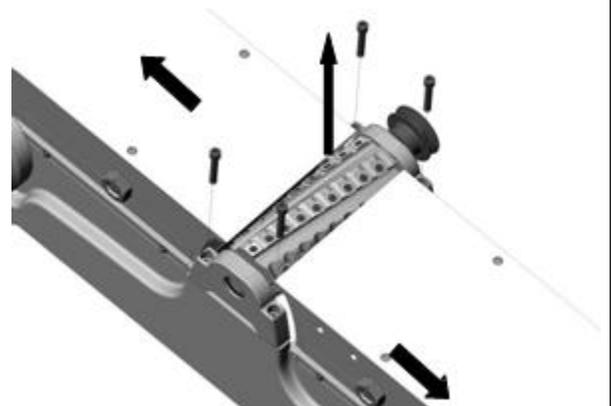

Fig. 10
4. Remove the two bolts and spring washers which secure the cutterhead to the base, as shown in (Fig. 10).